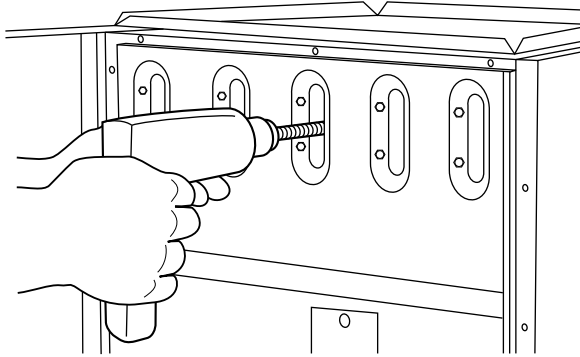

Fig. 48 – Cleaning Heat Exchanger Cell
**NOTE:** The materials needed in item 9 can usually be purchased at local hardware stores.
- (1) Attach variable-speed, reversible drill to the end of spring cable (end opposite brush).
- (2) Insert brush end of cable into the outlet opening of cell and slowly rotate with drill. DO NOT force cable. Gradually insert cable into upper pass of cell. (See Fig. 48.)
- (3) Work cable in and out of cell 3 or 4 times to obtain sufficient cleaning. DO NOT pull cable with great force. Reverse drill and gradually work cable out.